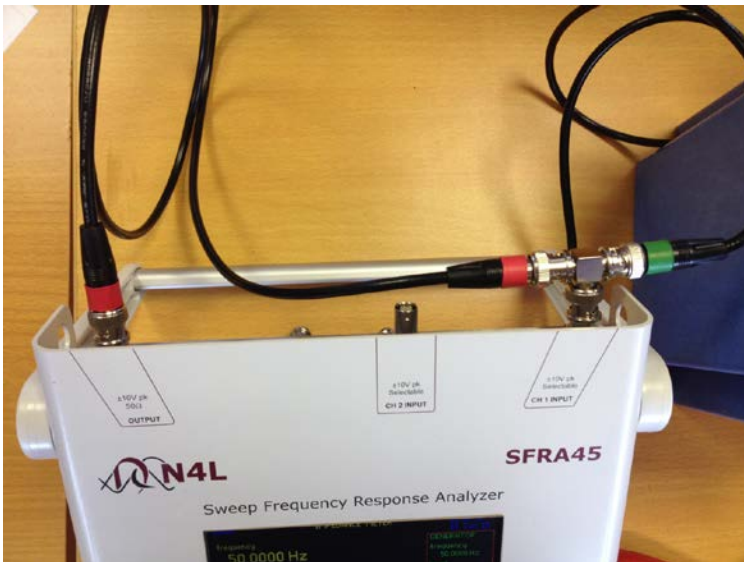

Fig 1
- A. Connect the “OUTPUT” lead to a “T” connector on CH1 of the SFRA45 (Fig 1)